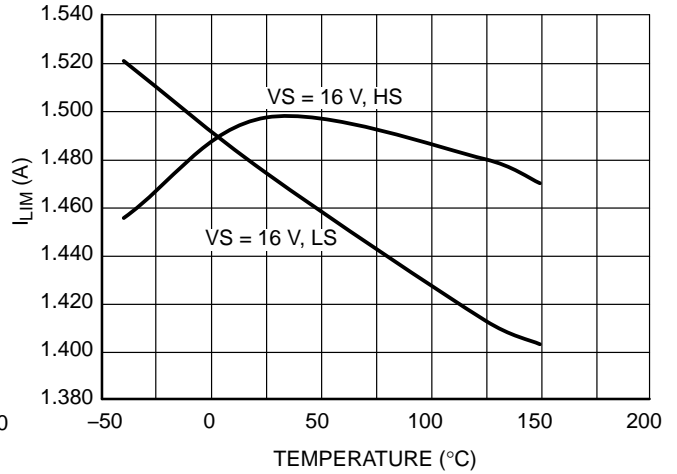

Figure 14. Output Over Current vs. Temperature
11. Refer to Figure 14 for current limit behavior.